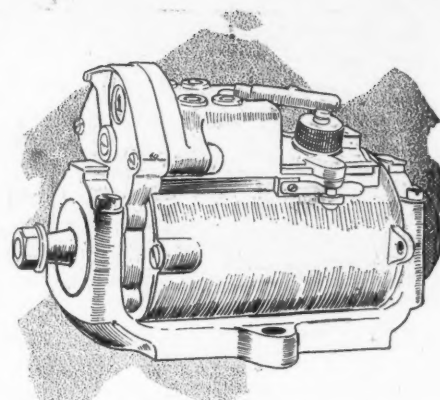

FIG. 7—MEA BH-4
**Mea**—For the first time in the history of Mea magnetos there appears this year a model which does not involve the distinctive Mea feature of the rocking field magnets. This new model is the waterproof design just brought out, shown in Fig. 7. The waterproof feature is obtained by entirely covering the whole upper part of the instrument in a metal housing. The joints are fitted so that there is no possibility of water entering